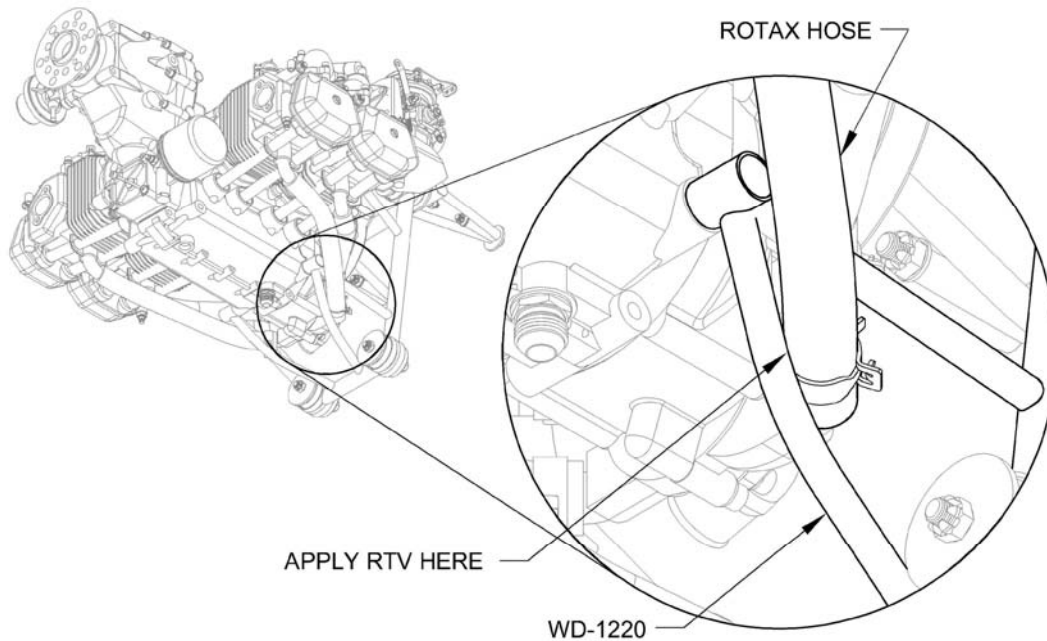

FIGURE 2
Step 3: Inspect the Rotax #2 Cylinder Water Tube (PN: 922362, 280mm) where it contacts the engine mount. See "Rotax Hose" call-out in Figure 2.